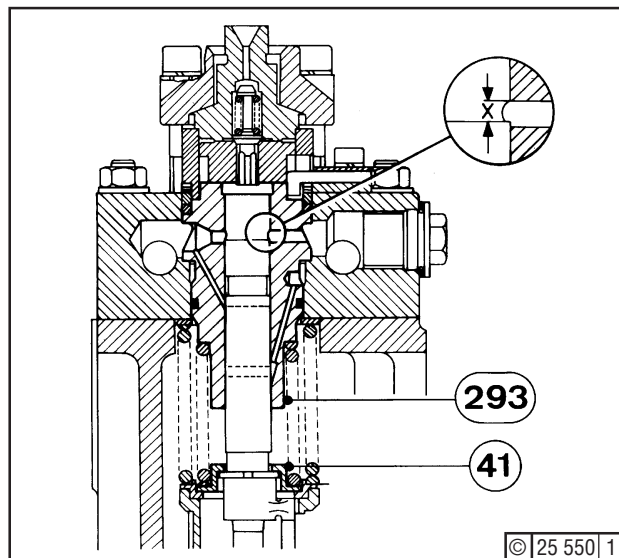

Fig. 3
This results in an idle stroke (X) - Fig. 3 - of $3,5 \pm 0,1$ mm.